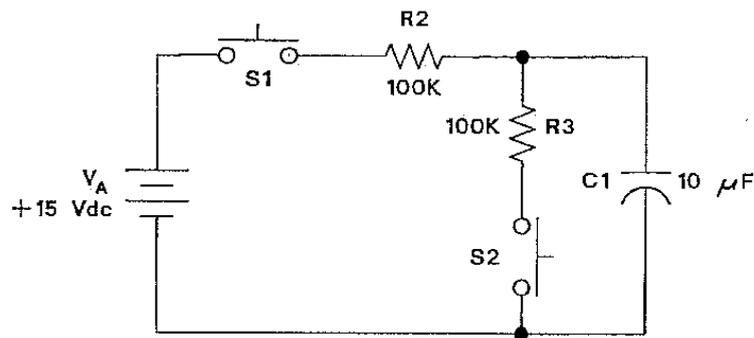

Figure 1 Capacitor test circuit with dc source
2. Locate the RC TIME CONSTANTS circuit block, and connect the circuit shown in Figure 1. Set up the oscilloscope for operation, and set the vertical coupling for channels 1 and 2 to DC.